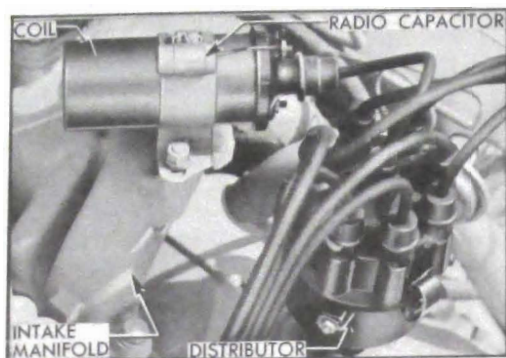

Figure 10-41—Coil and Distributor
(3) *Ignition Coil.* The oil filled ignition coil is mounted on the rear end of the intake manifold, adjacent to the ignition distributor. The positive (+) terminal is connected to the ignition switch through the resistance unit, and is also connected to the contact in the solenoid switch which bypasses the resistance unit during cranking of engine. The negative (-) terminal is connected to the primary terminal of the distributor. The secondary (high tension) terminal is connected by a short cable to the center terminal in distributor cap. See figure 10-41.
case at the rear end. See figure 10-41. It is driven *clockwise* directly from the camshaft through steel gears which are automatically lubricated by the engine oiling system. The gear thrust is upward against a special bronze thrust washer.
(6) *Radio Suppressor and Capacitor*. A 10,000 ohm resistor is built into the distributor rotor so that it is unnecessary to install a suppressor on the high tension cable when a radio is installed. A capacitor is mounted on the side of ignition coil and connected to the positive (battery) terminal of coil when a radio is installed. See figure 10-41.